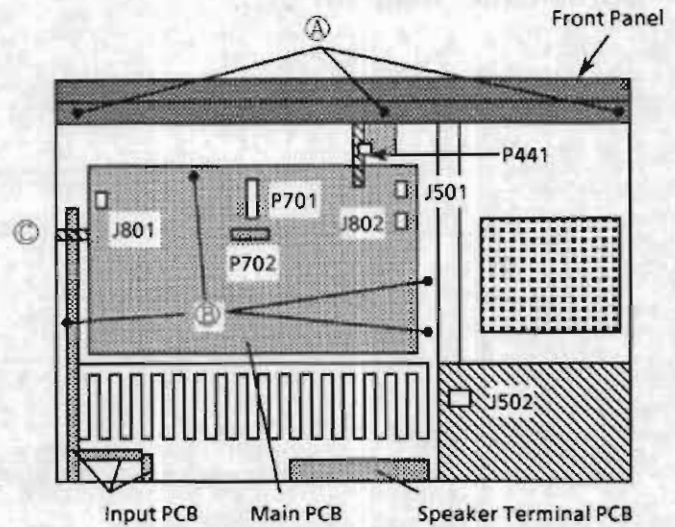
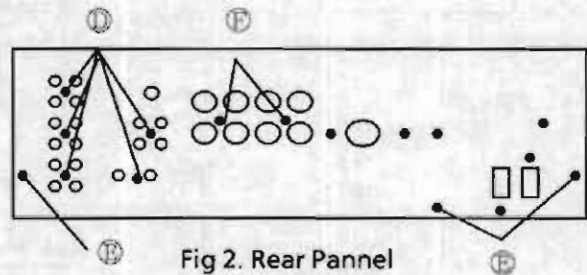

Fig 1. Top View
Fig 2. Rear Panel
- 1) Remove the 3 revets (A) fastening top of the Front Panel (Fig.1), and the 5 screws (C) fastening bottom of the Front Panel (Fig.3).
- 2) Disconnect the connector P441 of Master Volume PCB (Fig.1), then remove the MASTER VOLUME knob.
- 1) Remove the 5 screws (D) fastening the Input Terminal (Fig.2) and release the rebet (C) fastening the Input PCB (Fig.1).
- 2) Remove the 2 screws (I) fastening the Bottom Cover (Fig.3) and remove the 3 screws (E) fastening the Rear Panel (Fig.2).
- 3) Remove the connector J801 (Fig.1).
- 1) Remove the 2 screws (E) fastening the Speakers Terminal (Fig.2).
- 2) Remove the 5 screws (D) fastening the Input Terminal and remove the 3 screws (E) fastening the Rear Panel (Fig.2).
- 2) Remove the Input PCB. (Refer to the procedure of item 4.)
- 3) Remove the 4 screws (B) (Fig.1).
- 4) Remove the Speakers Terminal PCB. (Refer to the procedure of item 5.)
- 5) Remove the 6 connectors J801, J802, J501, J502, P701 and P702 (Fig.1).